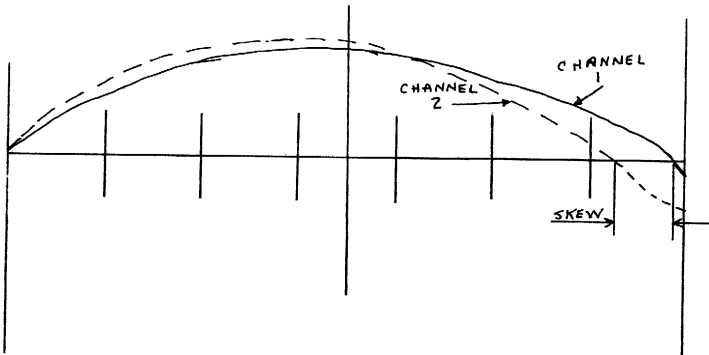

FIGURE 1
- (1) Plug in skew tester **AFTER** selecting source of V plus, see NOTES on S3 and TO USE: (5), S3.
- (2) Calibrate. See NOTES on S1 and TO USE: (5), S3.
- (3) Select correct split winding, see NOTES on S2 and TO USE: (5), S2.
- (4) Skew Test
- C. Skew is measured by measuring the time difference between the two signals crossing a given reference line. Figure 1. To test skew; with tape in motion, depress lightly on the back edge of the tape on the right or left sides of the head. Record which side causes the skew to increase when pressure is applied to one side or the other. If the real skew is greater than 2 μ sec, the head should be deskewed. This tolerance will apply to both TU55 and TU56 transports to gain an added factor of interchangeability of tapes. If the head is to be deskewed, it should be taken as close to zero as possible. If a non-zero skew is used, it must be formatted after each attempt to deskew.